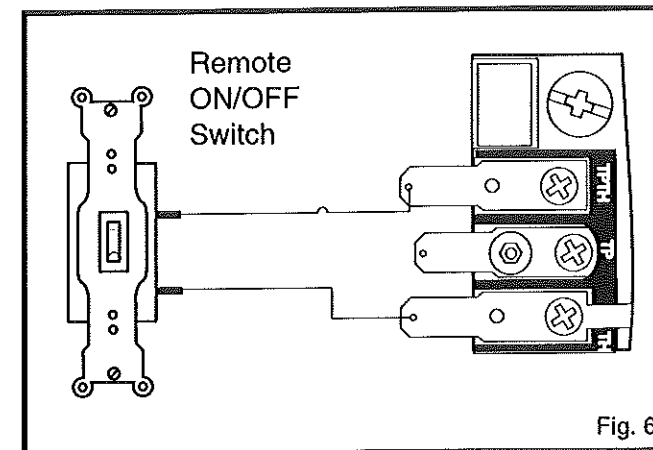

Fig. 6
3. Connect the wire to the gas control valve (Fig. 6).